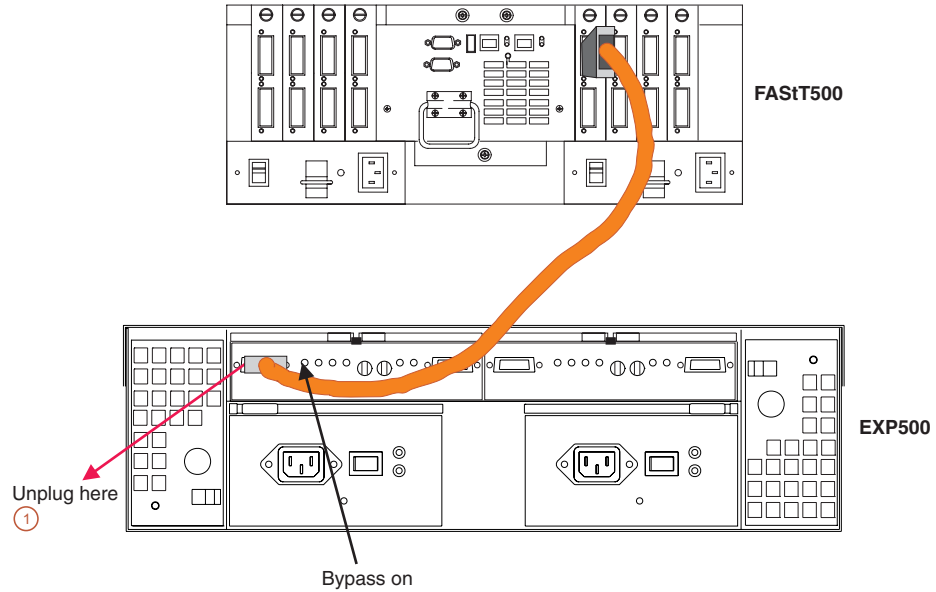

Figure 70. Disconnect cable from loop element
1. Disconnect the cable from the loop element that has the bypass indicator light on. See Figure 70 on page 134.